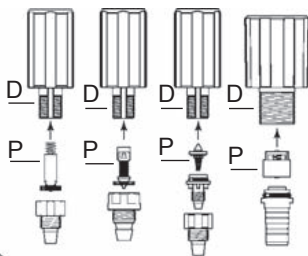

Fig. 18
- Rinse copiously the different parts with clean water, re-assemble them (**Fig. 18**).
- Refit the suction valve (**Fig. 18-P**), according to the 3 pump types, into the injection stem (**Fig. 18-D**), push as far as it will go.